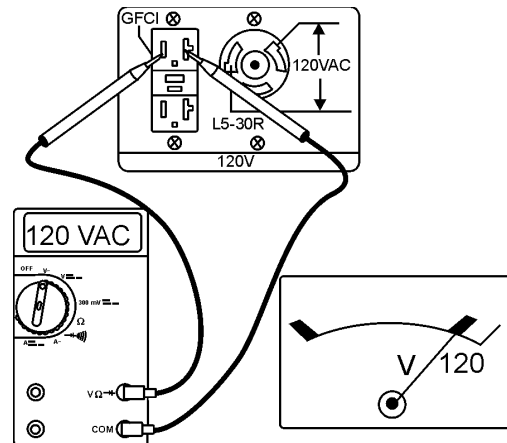

Figure 17. 120V/GFCI Receptacles
- Read the voltmeter on the front panel of the generator (Figure 17) and verify that 120 VAC is present at the 120V twist-lock and GFCI duplex receptacles. For
additional verification of voltage, an external voltmeter can be used to measure the output voltage as shown in Figure 17.